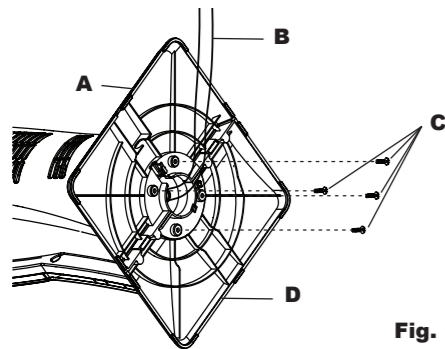

Fig. 1
### DESCRIPTIONS (See Fig. 1, 2, 3 & 4)
Step 1: Snap the two halves of the base together and run the power cord through the center of the base. Line up holes of the base with holes on bottom of heater housing, and secure with 4 provided screws. (Refer to Fig. 1)